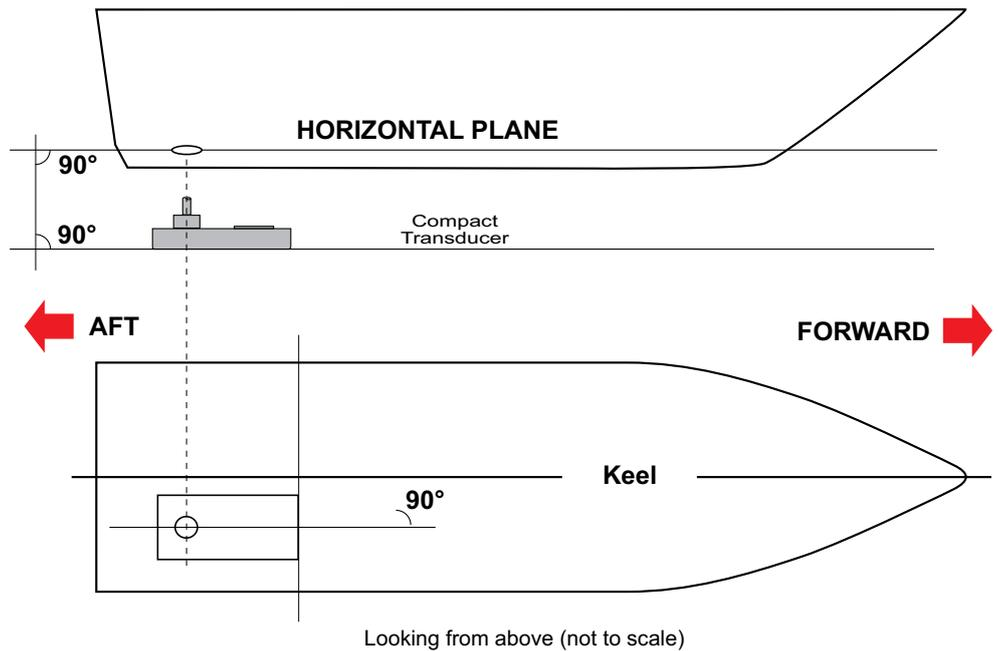

Figure 4 – Placing the Transducer on the Keel
- ▶ When mounting the transducer, ensure it is accurately running parallel to the keel in a bow-stern direction. See Figure 4.
The outline diagrams in Figures 4 to 10 provide the physical dimensions of the major items of equipment to be installed.
Figure 4 shows the physical dimensions of the compact type transducer. These sizes are required by the installing shipyard to construct a sea chest to mount the transducer to the hull.